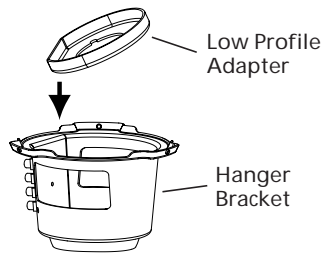

Figure 3b - inserting the low profile adapter
2. Fit the low profile adapter down inside the hanger bracket, aligning the flat section on the low profile adapter with the flat section in the hanger bracket. To clear the two screws that project into the hanger bracket, you may need to tip the flat section of the low profile adapter down slightly, while inserting it into the hanger bracket. See figure 3b.